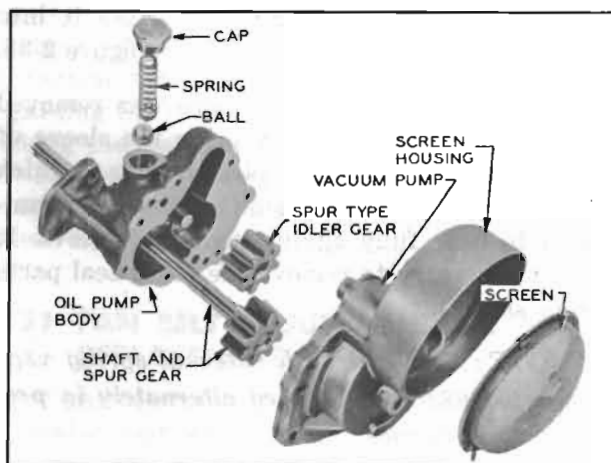

Figure 2-39—Oil Pump and Screen
1. Remove vacuum pump housing with end cover, then remove the oil pump shaft and gear, and idler gear from the pump body. See figure 2-39.